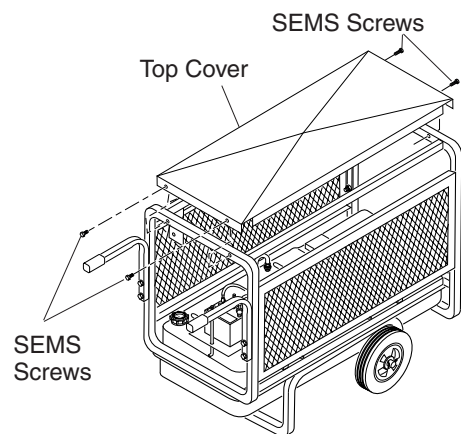

Figure 8 – Attaching Top Cover to Roll Cage
2. Place top cover on top of generator roll cage with notch on control panel side. Use four #8 sems screws provided to attach cover to roll cage (See Figure 8).